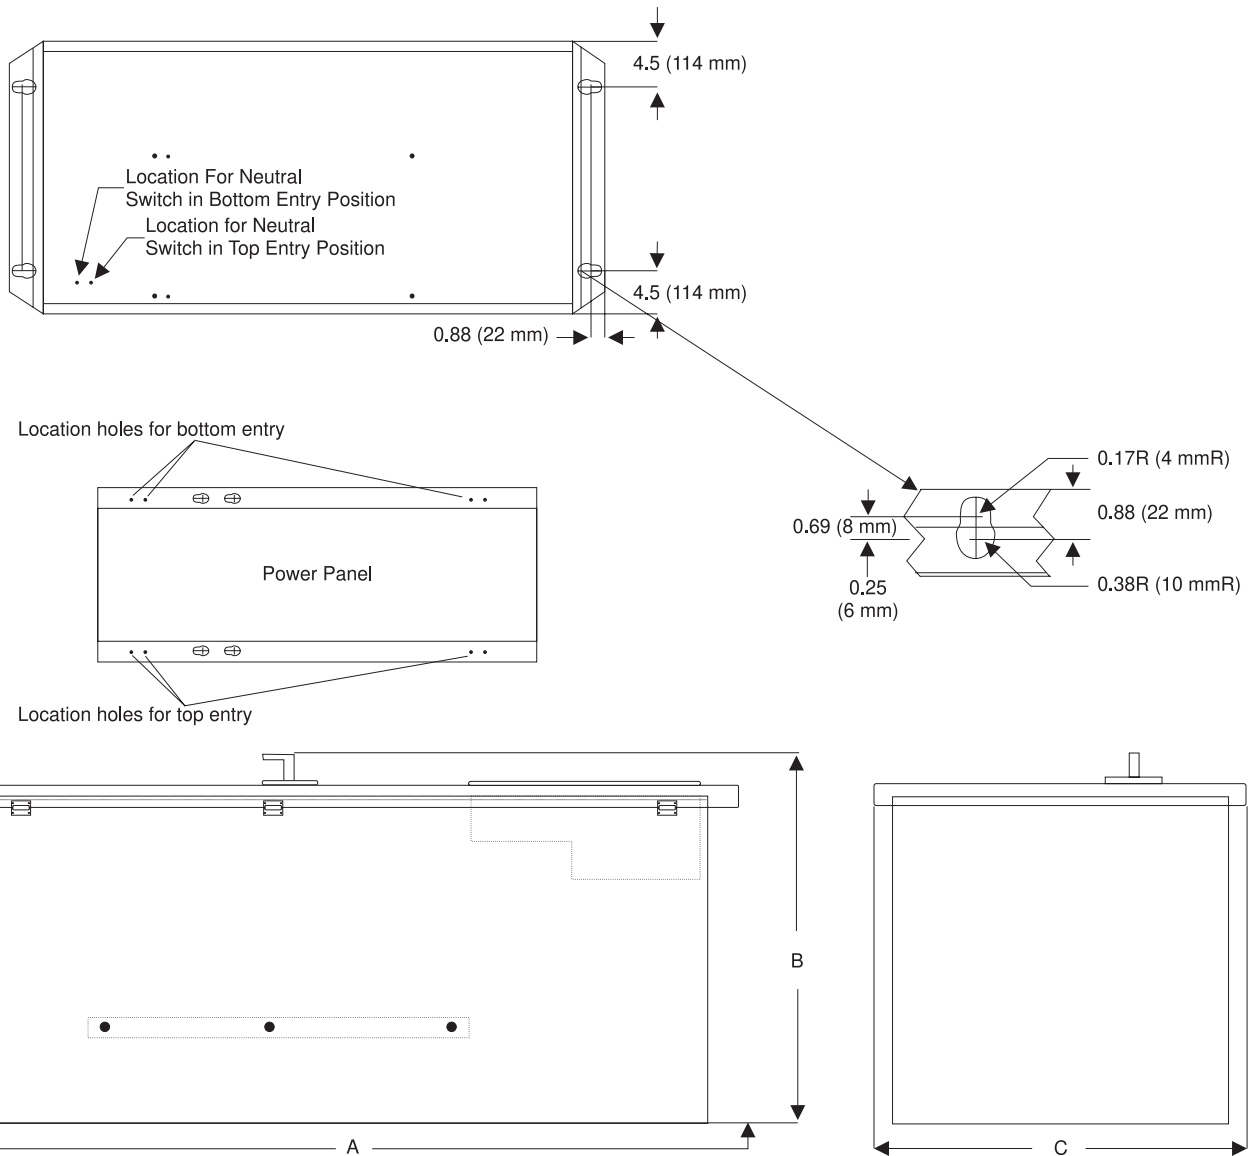

Figure 4-1 Dimensions of Enclosed Automatic Transfer Switch and Approximate Weights
Choose a location that offers a flat, rigid mounting surface capable of supporting the weight of the enclosed transfer switch equipment (Figure 4-1). Avoid locations that are moist, hot, or dusty, however, there are enclosure designs available for special environments. If there are any doubts as to location suitability, discuss them with your Cutler-Hammer representative.
Refer to Figures 4-1 for enclosure and power panel mounting dimension references. All vertical design transfer switch equipment enclosures and power panels are of the same design. Only the overall physical dimensions change. Note in Figure 4-1 that the enclosure is provided with four elongated mounting holes, two in the top mounting flange and two in the bottom. Also notice that the power panel has two sets of mounting holes. One set positions the panel for top entry of cables and one set for bottom entry. This will be covered in more detail in Section 4.4
**At this point, take the time to refer to Figure 4-1 and become familiar with the inside rear of the enclosure and the power panel mounting provisions available for both top and bottom entry. It will facilitate reinstallation of the power panel.**